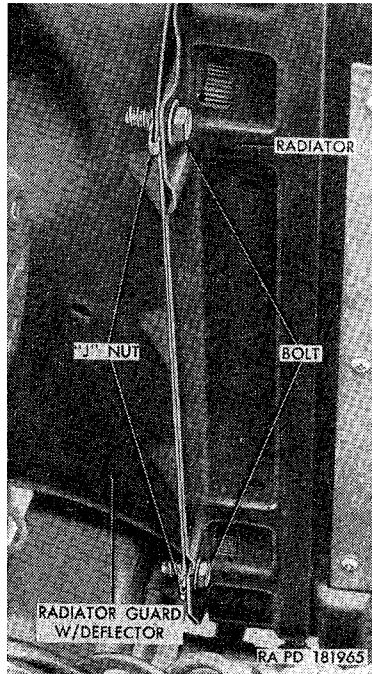

Figure 183. Radiator-to-guard panel "J" nuts—installed.
- (4) Remove the two bolts from the two radiator-to-guard panel "J" nuts (fig. 183) securing each side of the radiator guard to the radiator assembly.
- (4) Secure the radiator guard to the radiator by screwing two $\frac{5}{16} \times \frac{5}{8}$ bolts into the two radiator-to-guard panel "J" nuts on each side of the guard (fig. 183).